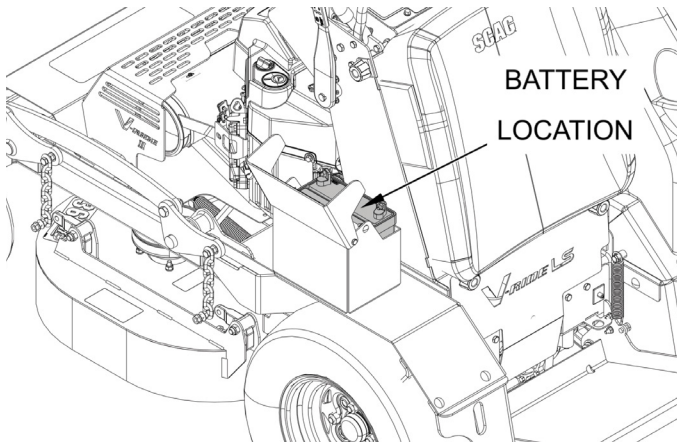

Figure 7-10. Battery Location
6. Uninstall the battery box strap and remove the battery from the machine. See Figure 7-10.